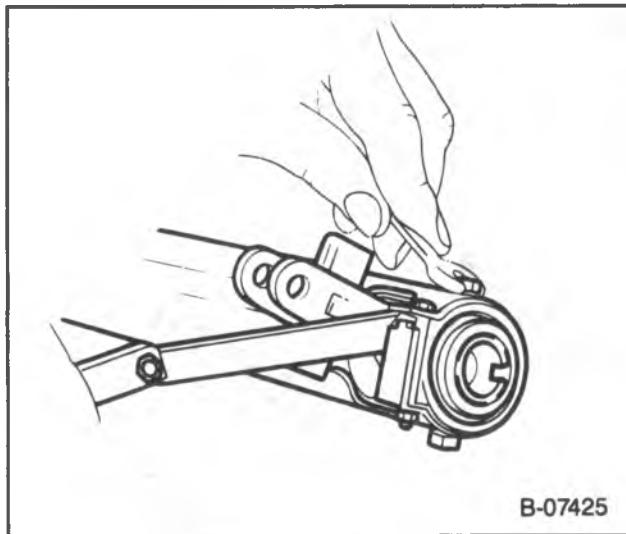

Figure 51 — Shift Tube Adjustment — Manual Transmission
3. Rotate the adjusting ring to give a 0.13 mm (0.005-inch) end play between the adjusting ring and first and reverse lever (figure 51).